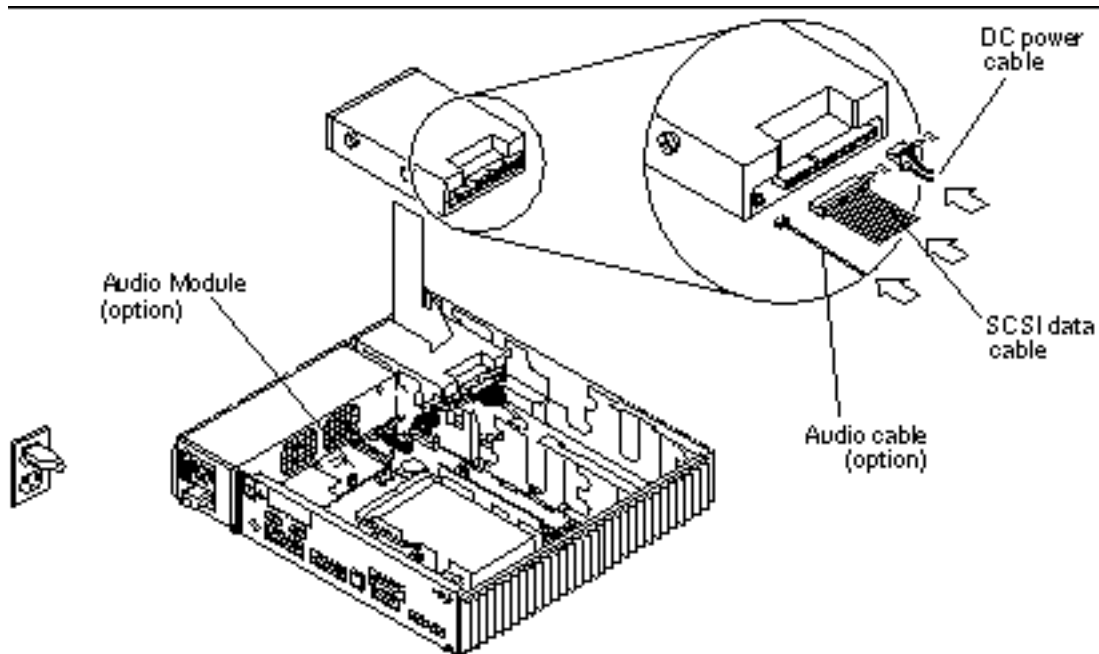

Figure 9-6 Replacing the CD-ROM Drive
3. Install the drive as shown in Figure 9-6.
See Figure 9-6.